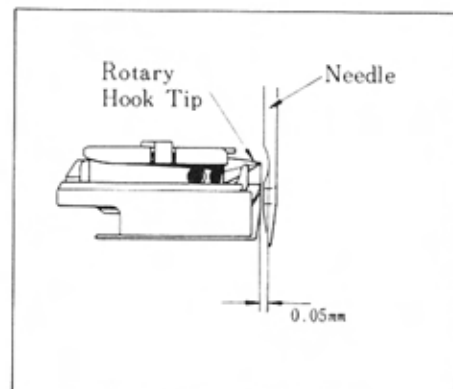

Figure 3
2. Hooks to Needles for Clearance, Timing, and Bobbin Case Height (Figures 3, 4, 5, 6a, 6b and 7)
- (c) Move the support housings as needed to obtain minimum clearance (approximately 0.05mm) between the hooks and needles (see Figure 3).